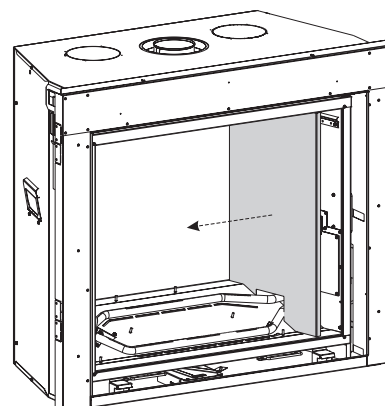

Figure 81
4. Remove right liner panel (**Figure 81**).